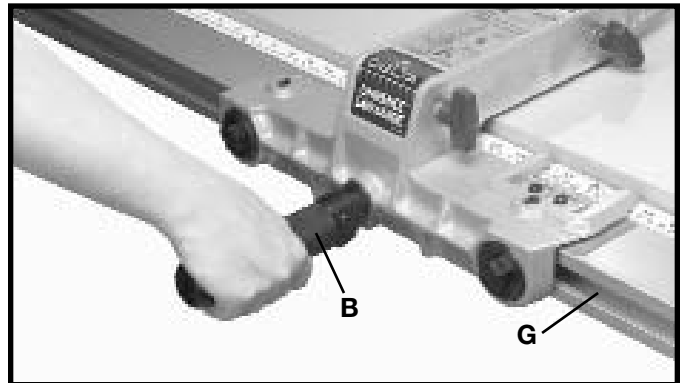

Fig. 34
3. While pushing in on handle (B), turn to the right indent position as shown in Fig. 34. This will prevent fence clamp from sliding out of the channel (G).